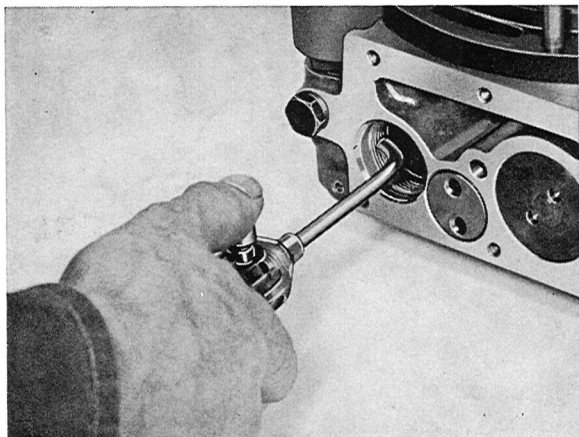

Fig. 4-54. Blowing orifice nozzle clean
4. Before installation of the relief valve parts, blow the orifice nozzle clean with compressed air, see Fig. 4-54.
The orifice nozzle is accessible after the cylinder of the relief valve has been removed according to above. Blow the orifice nozzle clean with compressed air, see Fig. 4-54.